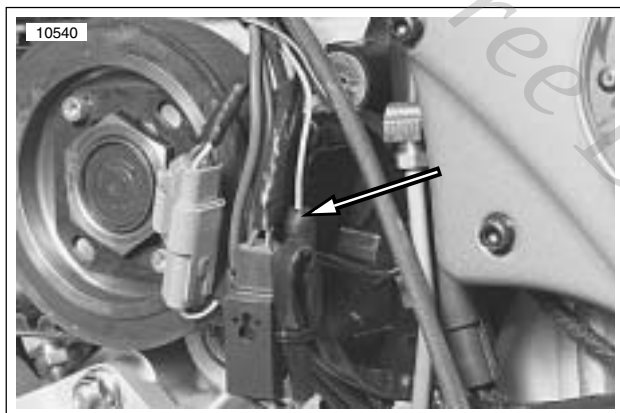

Figure 7-89. Neutral Switch Connector [131]
5. See Figure 7-89. Connect neutral switch connector.